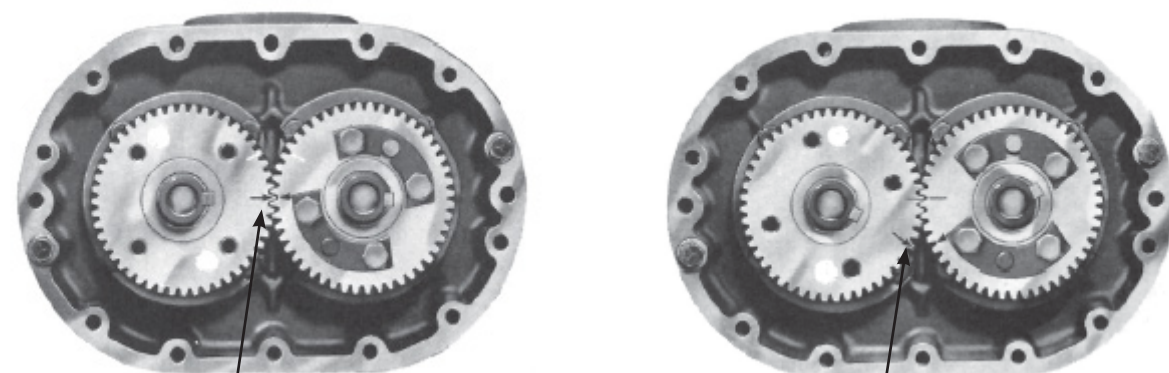

FIGURE 11
9. Align the timing marks (See Figure 11 on timing gears).
10. Rotate the drive gear in a clockwise rotation approximately 4 or 5 teeth and mark this location (see Figure 11). This gear position is necessary so rotors will clear and not jam. Do not allow the reference marks to change location while the driven gear is being removed
20. Lubricate the shafts and install the drive gear (right hand helix) on the drive rotor (left side). To install the driven gear, align the reference marks as shown in Figure 11. Install the driven gear carefully to avoid mashing any teeth when engaging the opposite gear.